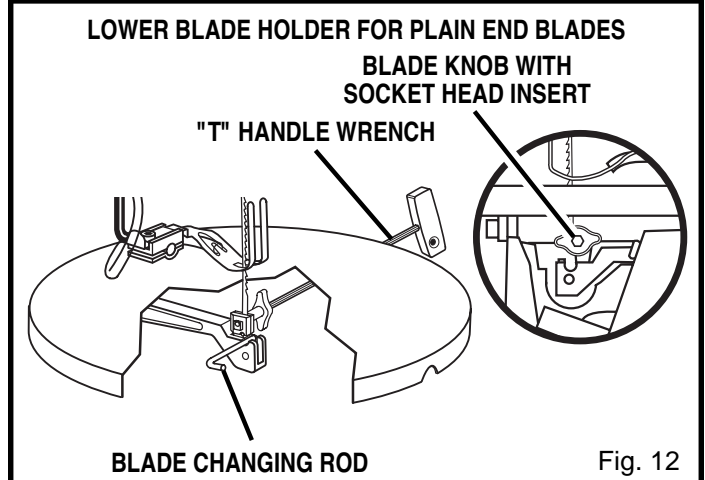

Fig. 12
See Figures 12 – 15.
- Insert blade changing rod into blade clamp slot in lower blade holder. See Figure 12.
- Using the "T" handle wrench provided, loosen the blade knob. See Figure 12. Remove the blade changing rod and repeat procedure with upper blade holder.